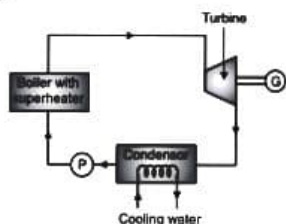

Fig. 1.1 : Block diagram of steam power plant
- The simple block diagram showing the main components of steam power plant are shown in Fig. 1.1.